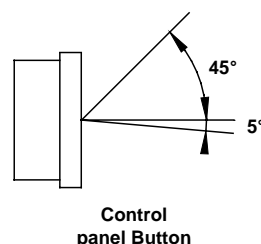

Figure 2
- The control panel's LCDs are designed to be clearly visible within the angles shown in Figure 2. Mount the control unit so that the visual angle is within this range.